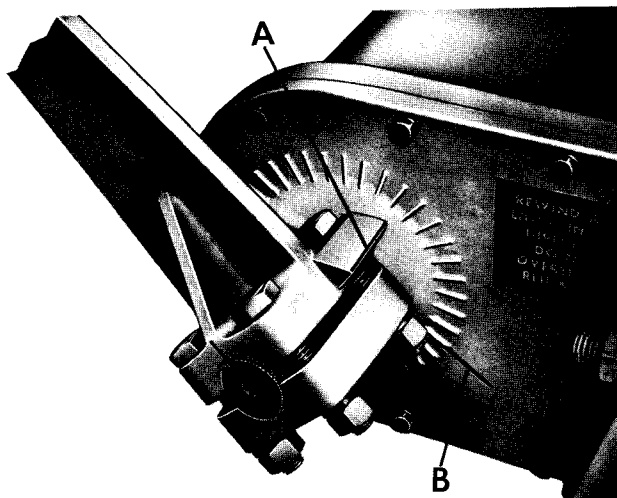

Fig. 7. Reset crank indicator and housing reference mark.
Slowly move the operating handle of the remote reset mechanism away from the handle stop, observing the position of the reset crank. As shown in Fig. 7, an indicator (A) is provided on the reset crank and a reference mark (B) is provided on the housing of the actuating mechanism.